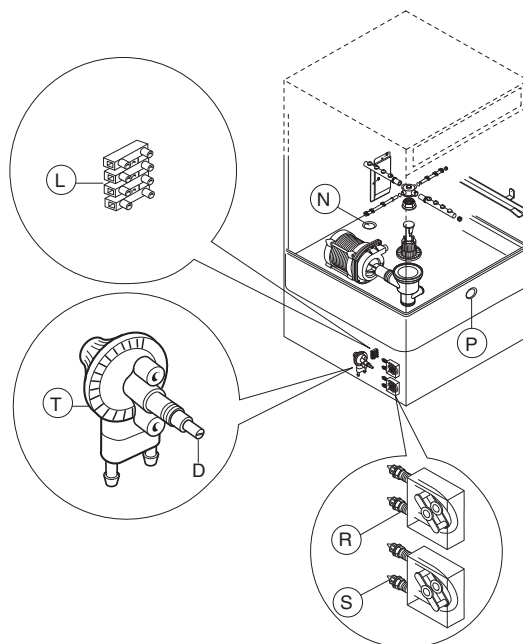

Figure 16
1. Dishwasher with incorporated detergent dispenser pump (Figure 16).
2. Dishwashers with incorporated peristaltic rinse-aid dispenser pump (Figure 16).
3. Dishwashers with incorporated rinse-aid diaphragm dispenser pump (Figure 16).
Connections for automatic detergent dispenser (Figure 16)
Connect to the terminal board "L" (Figure 16) to terminals 1 and 2 for dispensing during the rinse cycle or to terminals 3 and 4 for dispensing during the wash cycle.
In the appliances with pressure boiler, the diaphragm dispenser pump may be manually activated by pressing screw "D" (Figure 16).
To change the dispensed amount, turn  on screw "D" accordingly (Figure 16).